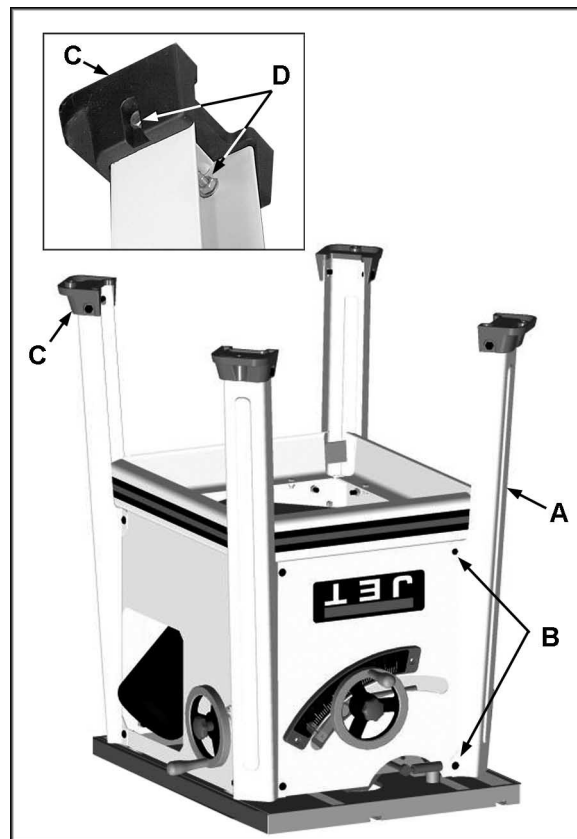

Figure 5
1. Remove all contents from the shipping carton. Keep the saw table upside down (see Figure 5) and place on a two-by-four or similar piece of wood under the rear of the saw. This will help when picking up the table again. Do not discard the carton of packing material until the saw is assembled and is running satisfactorily.
Referring to Figure 5: